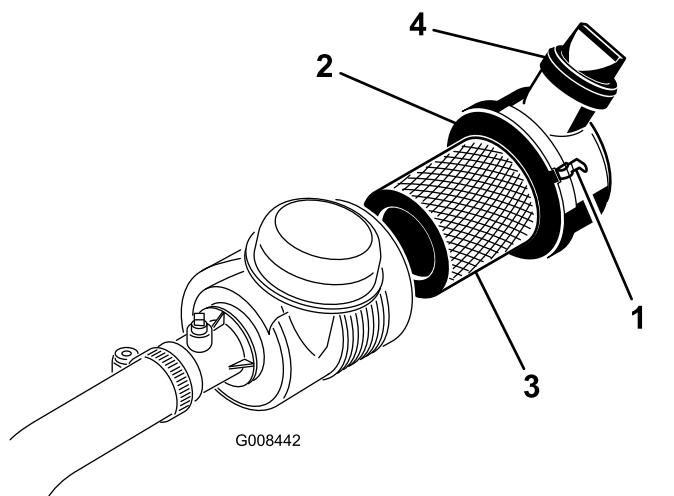

Figure 31
1. Release the latches that secure the air-cleaner cover to the air-cleaner body (Figure 31).
7. Ensure that the latches secure the cover to the body (Figure 31).